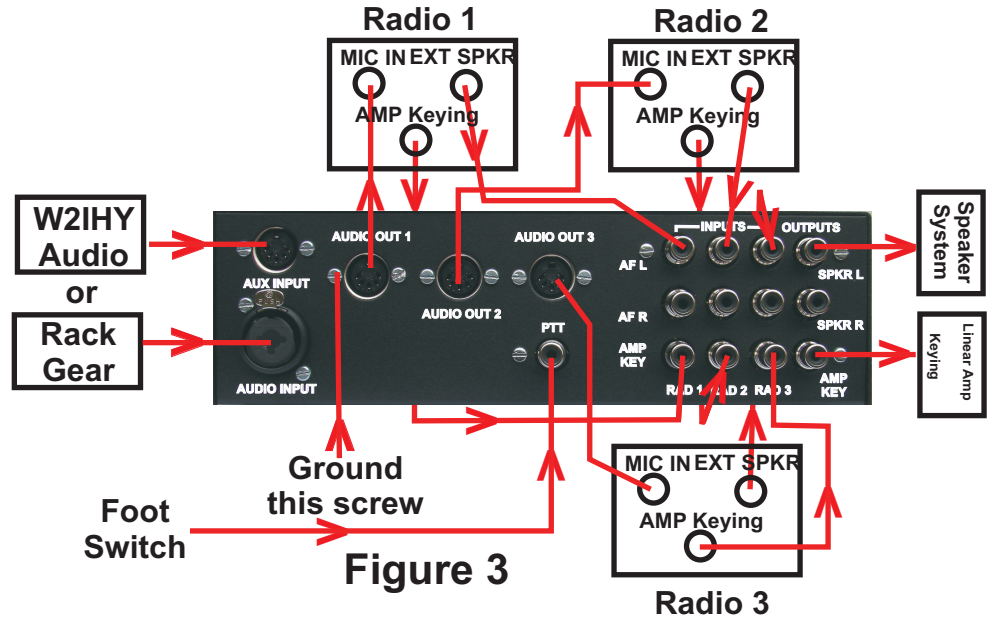

Figure 3
4. Connect the external speaker outputs from the radio's you want to interface to the iPlus. Using figure 3 as a guide connect the radio's external speaker output to its corresponding iPlus RCA **AFL/AFR Inputs**.
6. Connect your radio's linear amplifier keying lines, to the **iPlus**, for those radios you wish to operate with your linear amplifier. The Radio connected to Audio Output 1 should be connected to the **Input Amp Key connector** for Radio 1 if you want it to operate this radio with your amplifier. (See figure 3) The Radio connected to Audio Output 2 should be connected to the **Input Amp Key connector** for Radio 2 if you want it to operate this radio with your amplifier. The Radio connected to Audio Output 3 should be connected to the **Input Amp Key connector** for Radio 3 if you want it to operate this radio with your amplifier.
8. If you will be using a foot switch or other device to key your transmitter connect it into the **PTT connector** (see figure 3).